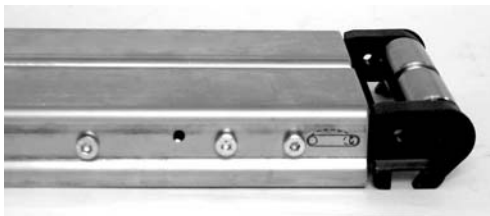

Figure 5
2. Compress tension end (Figure 5). Refer to steps 3 and 4 under the “Belt Removal for Conveyor Without Gearmotor Mounting Package or Stands” on page 9.